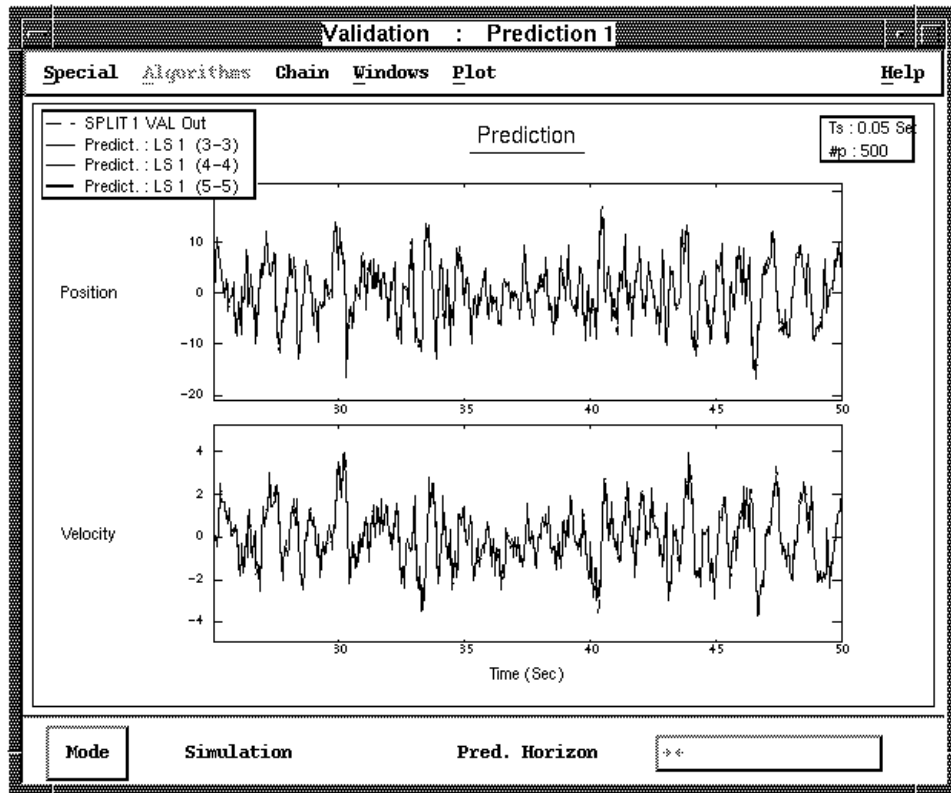

Figure 2.7 The **Prediction** algorithm window. Clicking on a legend entry displays the corresponding predicted output.
9. The most interesting algorithm (in this case) is the **Prediction** algorithm. Raise its window by double clicking on the corresponding icon. Figure 2.7 shows the **Prediction** algorithm window. This window still displays two curves, but now there are 4 entries in the legend of the plot (top left corner). The first legend entry is the original data. The other entries correspond to the three models that were identified using the least squares algorithm. If you click with the left mouse on the text of one of the legend entries (for instance click on the text “Predict. LS 1 (3-3)”), you see another predicted signal show up. In this way, you can easily compare the predictions and thus compare the quality of the different models.